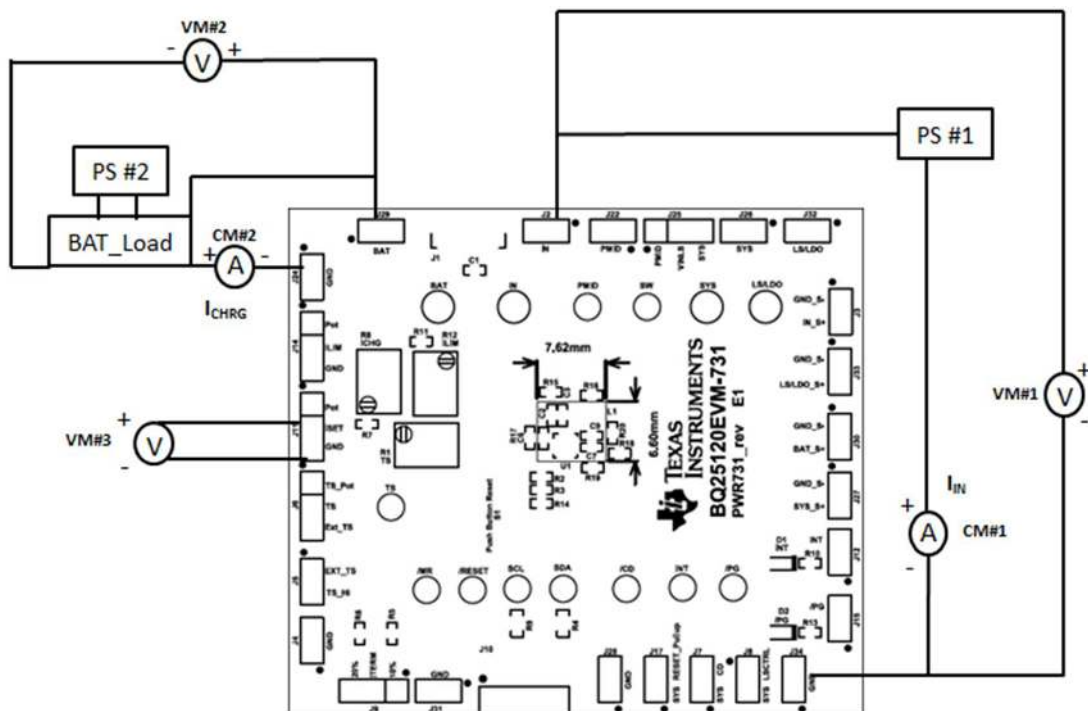

Figure 3. Test Setup (PWR731 for bq2512xEVM-731 Shown)
After the preceding steps are accomplished, the test setup for PWR731 is as shown in Figure 3. The setup is similar for PWR812 with the bq25121.
3. Go to Field View of the GUI and then read all the registers. All the default register values should be shown in the register map (as shown in Figure 3).